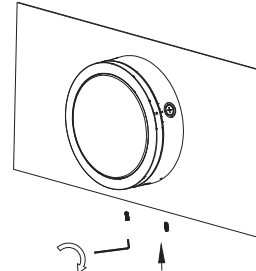

Fig.6
6. Use the Allen wrench with a torque of 6Nm to lock two M5 set screws. (Fig 6)